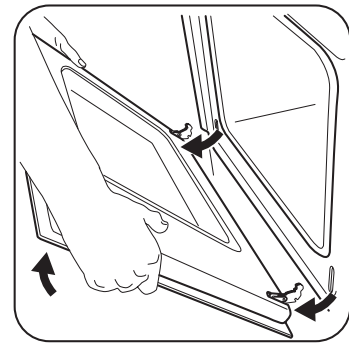

Figure 30: Holding door for removal
3. Firmly grasp both sides of oven door along the door sides. Do not use the oven door handle. Close the oven door halfway to the first opening position. Then, pull forward and remove the door from its seat (Figure 30).
1. Firmly grasp both sides of oven door along the door sides. Do not use the oven door handle (Figure 30).
2. Holding the oven door at the same angle as the removal position, seat the hook of the hinge arm over the roller pins located on each side of the oven door frame (Figure 30). The hook of the hinge arms must be fully seated onto the roller pins.